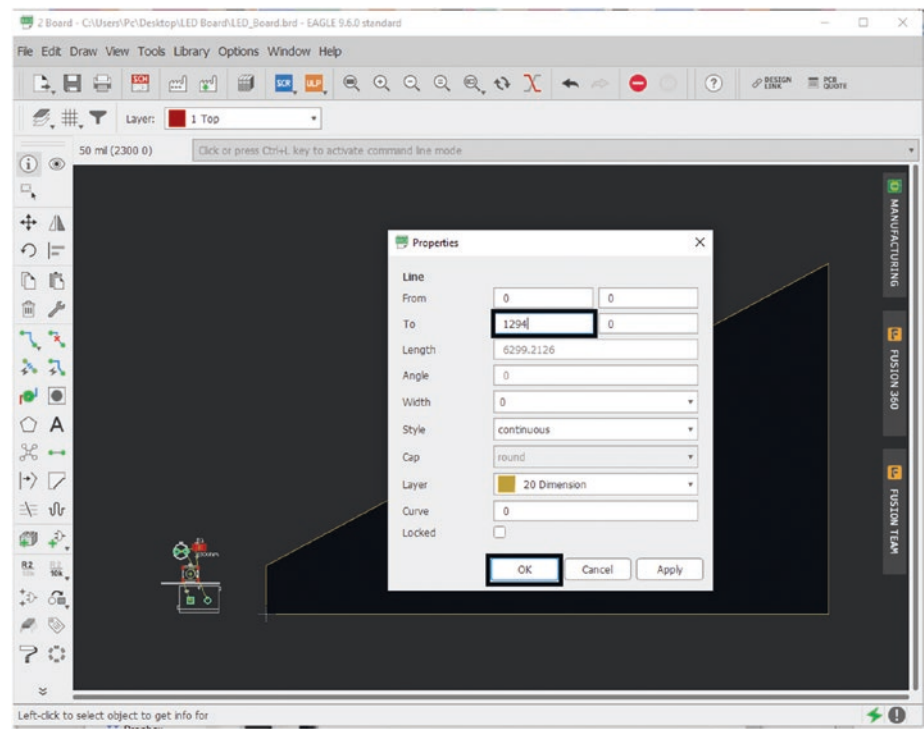

Figure 5-58. Update horizontal line value
- 7. Type 1294 into the box right next to the “to” and click “OK.” See Figure 5-58.